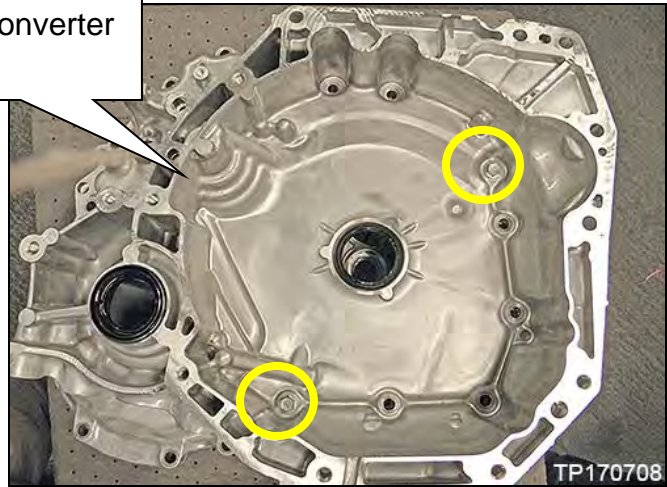

Figure 1M
1. Temporarily install the torque converter housing to the CVT case with two (2) bolts at opposite corners, hand tight (Figure 1M).